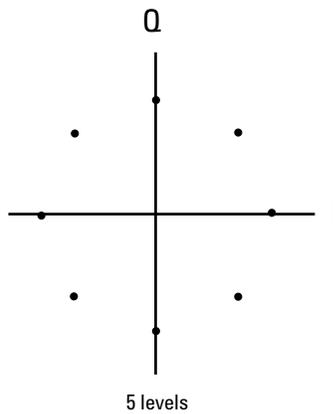
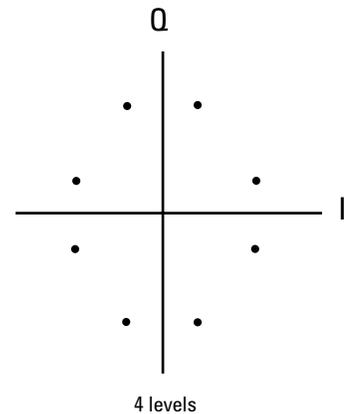

Figure 14. 8PSK I/Q map with five levels
Figure 15. 8PSK I/Q map with four levels
- The map is limited to 16 total signal levels for I and Q combined. The readout on the right-hand side of the table tracks the number of I and Q levels utilized. Levels are I or Q values. Figures 14 and 15 show an 8PSK signal built in two different ways. The 8PSK signal in Figure 14 utilizes five of the available sixteen I/Q values. The 8PSK signal in Figure 15 utilizes four of the available sixteen I/Q values.